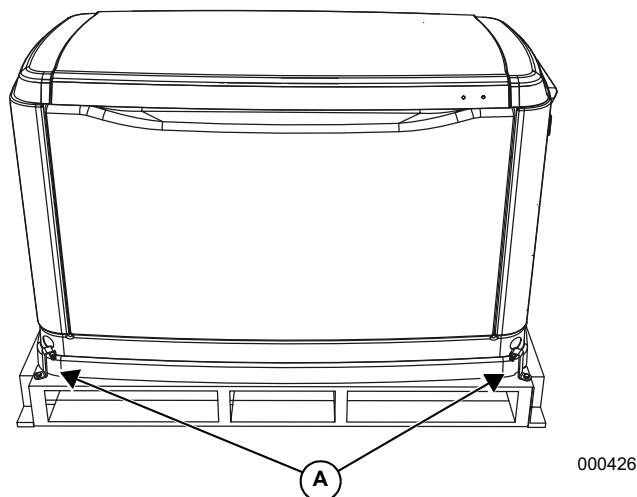

Figure 2-2. Generator on Pallet
3. See Figure 2-2. Remove bolts and pallet brackets (A). Exercise caution when removing the generator. Dragging it off the pallet will damage the base. The generator must be lifted from the wooden pallet to remove.